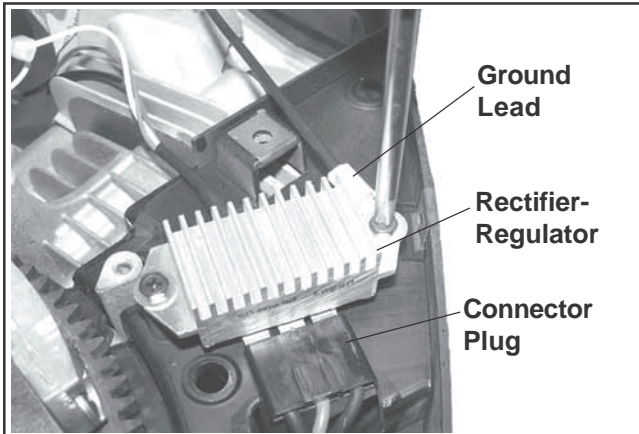

Figure 10-76. Installing Rectifier-Regulator and Ground Lead.
7. Position the rectifier-regulator onto the mounting posts with the cooling fins up. Attach the ground lead to the outer screw and washer, then torque the mounting screws to **2.0 N·m (18 in. lb.)**. Connect the plug to the rectifier-regulator. See Figure 10-76.